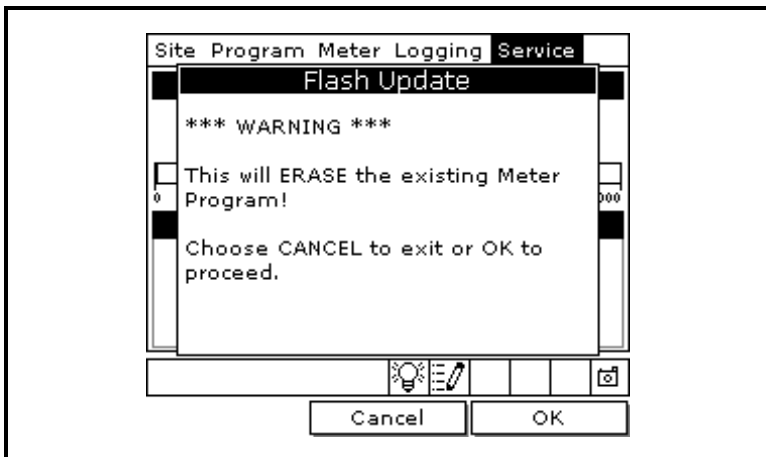

Figure 8-8: The Flash Update Window
3. Use the arrow keys to scroll to **Flash Update** and press [ENTER]. The screen appears similar to Figure 8-8 below.